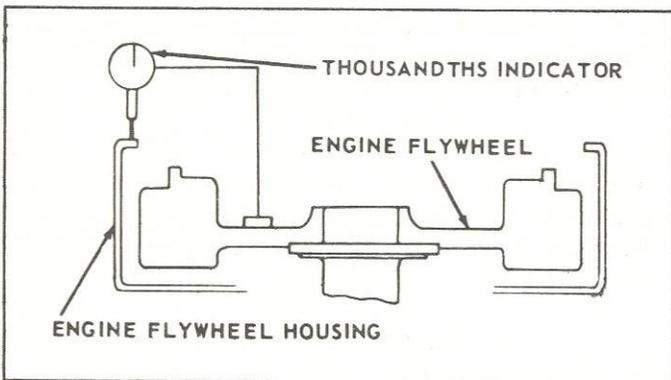

Figure 37. Checking the Face of the Engine Flywheel Housing.
B. Checking Face of Engine Flywheel Housing. Bolt a thousandths indicator or gauge to the engine flywheel so that the indicator is perpendicular to the face of the engine flywheel housing, and the indicator stem is riding on the face of the flange (fig. 37). Rotate the engine flywheel and note the face deviation of the engine flywheel housing flange. The face deviation must not exceed .008 inch.